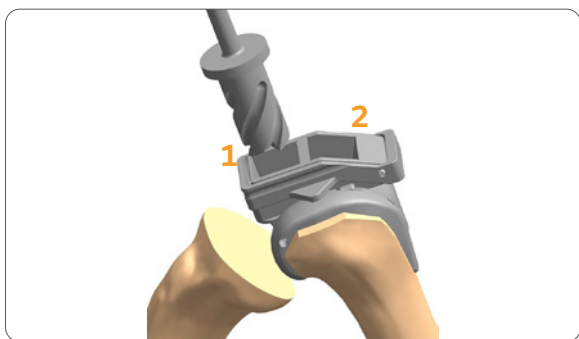

Figure 43
2. Insert the PS Box Reamer into the BCS Box Prep Guide and ream posteriorly first and then anteriorly (**Figure 43**).